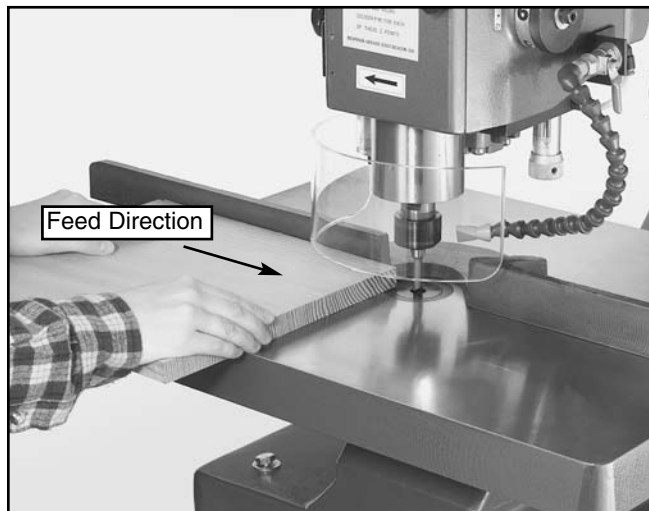

Figure 26. Straight routing direction.
2. The feed direction will be from the left to the right. Note that this is the opposite way that is normally used for a router table or shaper, where the motor is mounted below the table as shown in **Figure 26**.